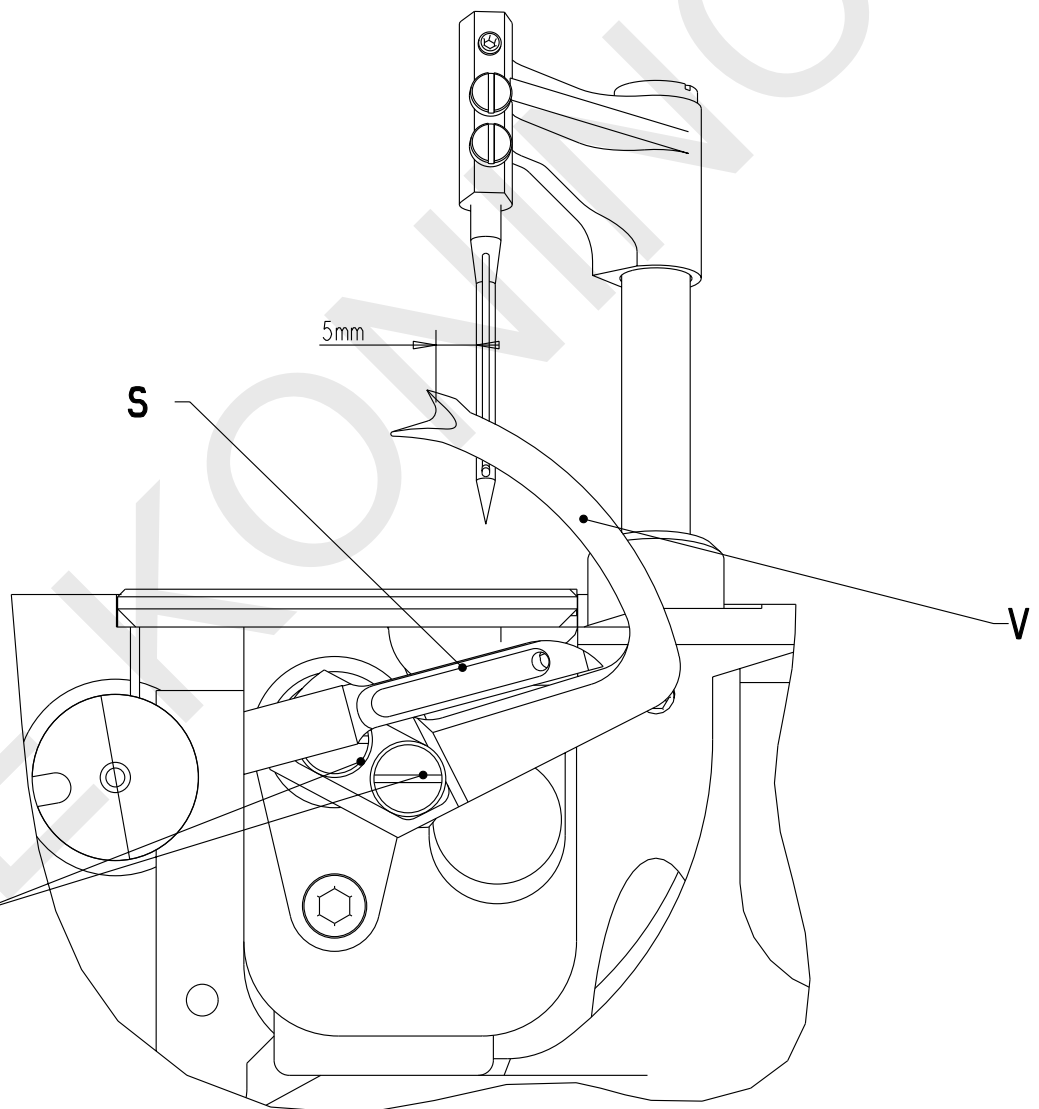

FIG 4.4
- Turn the handwheel by hand and push the lower looper to its furthest backward position. This action will give the operator access to the screws **T** (FIG 4.4).
- Make sure the outer end of the upper looper extends for 5mm beyond the edge of the needle, as illustrated in figure 4.4.
If this is not the case, adjust correct position via the screws **T** as in figure 4.4.
Loosen the **T** screws (figure 4.4) and turn the hand-wheel by hand for the upper looper to reach the top of its stroke (highest position).